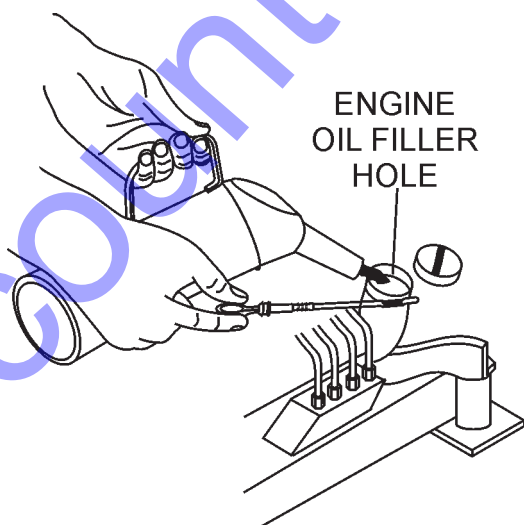

Figure 6. Engine Oil Filler Hole
4. If engine oil is low, fill engine crankcase with lubricating oil through filler hole (Figure 6), but do not overfill.